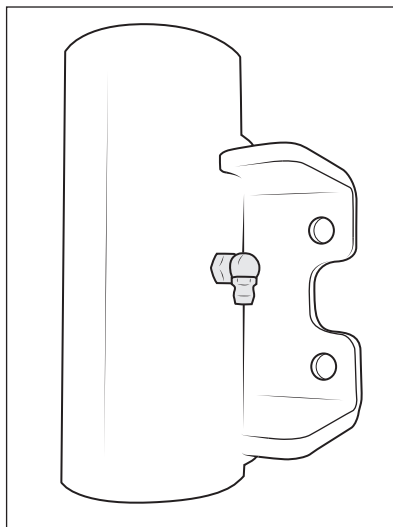

Figure 12
4. Install the Zerk Fitting into the Spindle Housing so that the Zerk is facing DOWN (fig. 12).